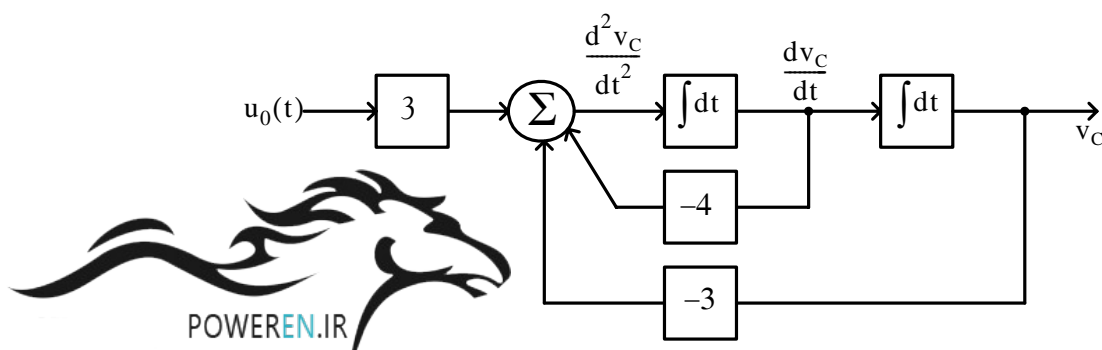
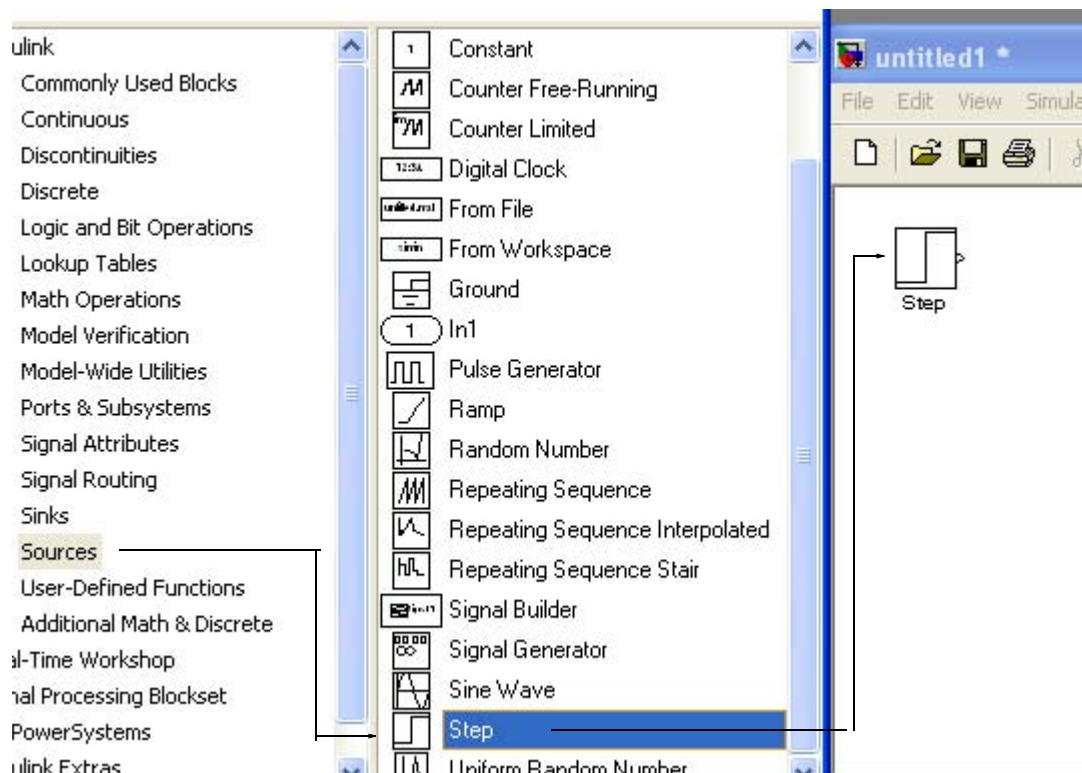
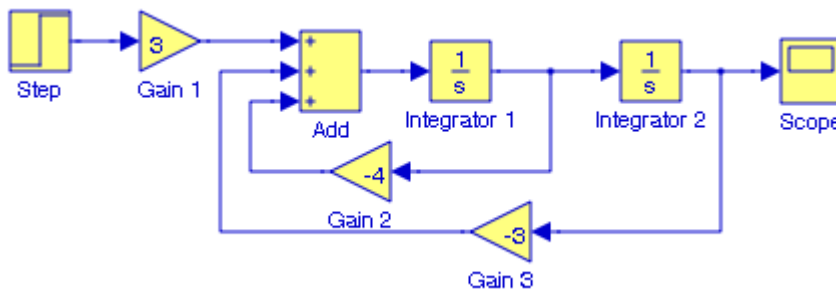

Figure 1.5. Block diagram for equation (1.26)
Figure 1.8. Dragging the unit step function into File Equation_1_26
Figure 1.12. File Equation_1_26 complete block diagram
A block diagram representing (1.26) is shown in Figure 1.5. Now, we will use Simulink to draw a similar block diagram.
2. With the **Equation_1_26** model window and the **Simulink Library Browser** both visible, we click the **Sources** appearing on the left side list, and on the right side we scroll down until we see the unit step function block shown as **Step** block. See Figure 1.8. We select it, and we drag it into the **Equation_1_26** model window which now appears as shown in Figure 1.8. We save file Equation_1_26 using the File drop menu on the **Equation_1_26** model window (right side of Figure 1.8).
3. With reference to block diagram of Figure 1.5, we observe that we need to connect an amplifier with Gain 3 to the unit step function block. The Gain block in Simulink is under **Commonly Used Blocks** (first item under Simulink on the **Simulink Library Browser**). See Figure 1.8. If the **Equation_1_26** model window is no longer visible, it can be recalled by clicking on the white page icon on the top bar of the **Simulink Library Browser**.
7. To complete the model to represent the block diagram in Figure 1.5, we add the **Scope** block which is found in the **Commonly Used Blocks** on the **Simulink Library Browser**, we click the **Gain** block, and we copy and paste it twice. We flip the pasted **Gain** blocks by using the **Flip Block** command from the **Format** drop menu, and we label these as **Gain 2** and **Gain 3**. Finally, we double-click these gain blocks and in the **Function Block Parameters** dialog box, we change the gains in **Gain 2** and **Gain 3** blocks from unity to -4 and -3 as shown in Figure 1.12.